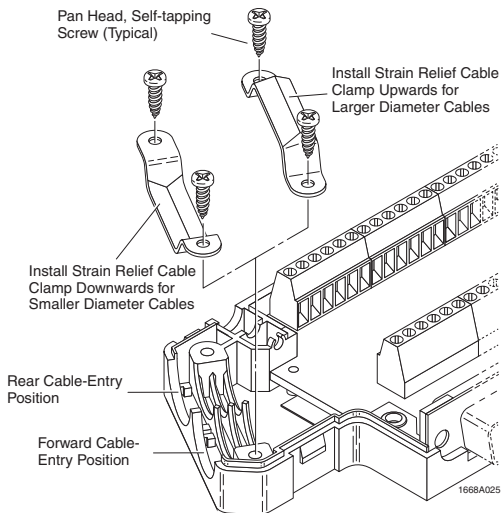

Figure 6. Strain Relief/Ground Clamp Orientation
The SUBCON 37 is shipped with the cable strain relief/ground clamp installed (see Figure 6). The clamp must be removed to install cable.
The strain-relief/ground-clamp can be installed two ways (see Figure 6). One way for large diameter cables and another way for smaller diameter cables.
7. Determine the best ground clamp orientation for the cable diameter being used (see Figure 6). Then install the strain-relief/ground clamp.
- Determine the best ground clamp orientation for the cable diameter being used (see Figure 6).
- Install the strain-relief/ground clamp (see Figure 6).